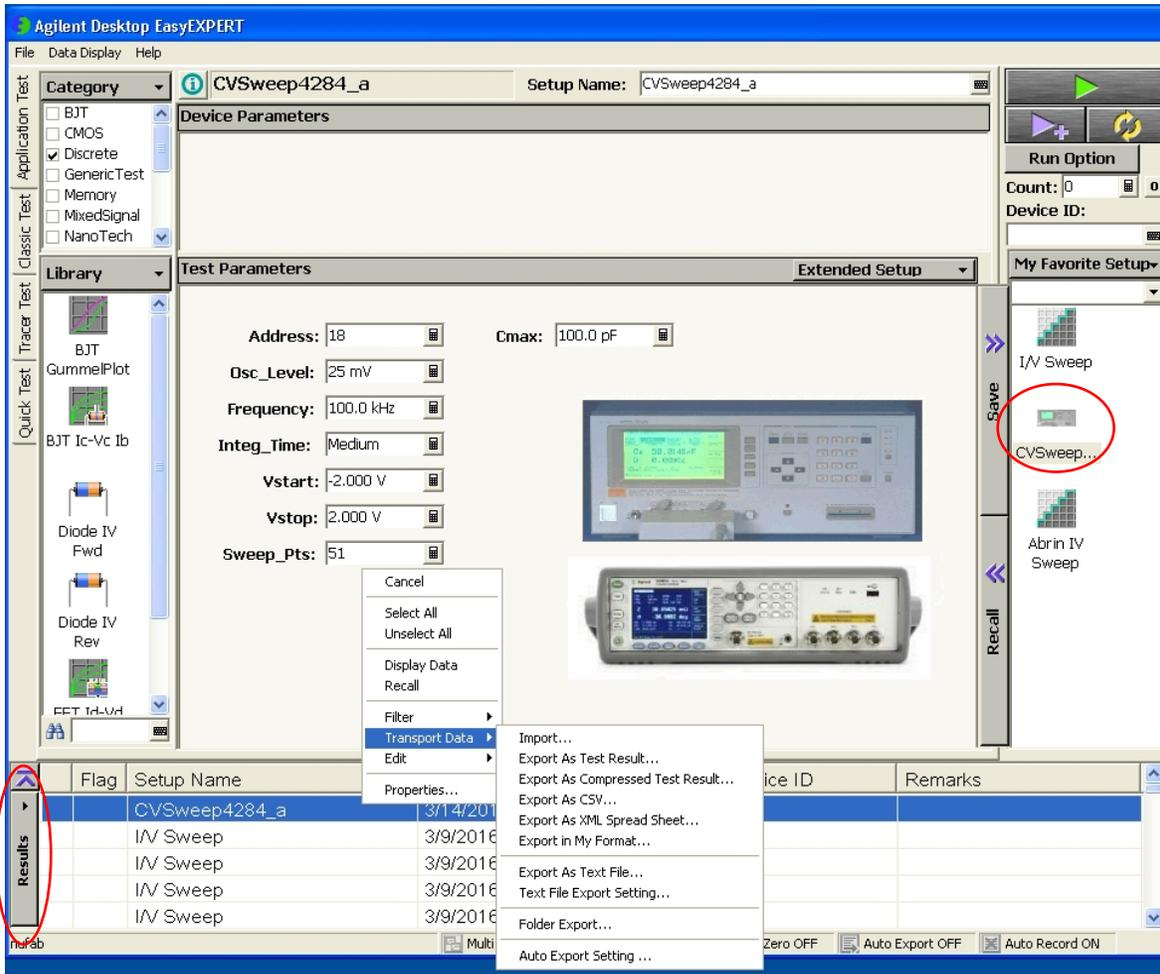

Figure 12. Data saving and CV measurement
15. To save the data, right click on the first item in the 'Results' (Figure 12). Select 'Transport Data' and choose a format to save.
16. The probe station is also capable of measuring capacitance as a function of biased voltage. The measurement setting can be selected from my favorite setup, the CVSweep (Figure 12). In the test parameters, input the measurement frequency (75 kHz to 30 MHz) and its magnitude (Osc-Level), the start and stop bias voltage (Vstart and Vstop), the sweep point numbers (Sweep_Pts), and the maximum capacitance value. Then click the green triangle in the top right corner.